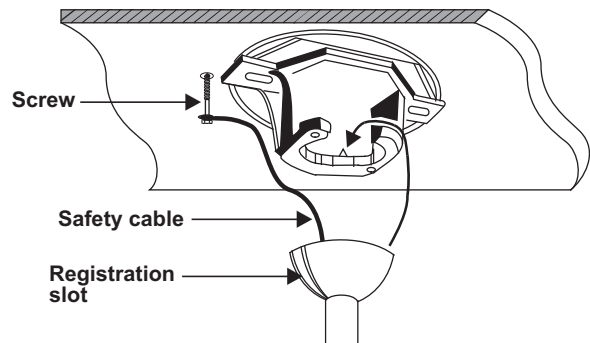

Figure 9
9. Now lift the motor assembly (fan with blades) into position and place the hanger ball into the hanger bracket. Rotate down rod until the "Check Tab" has dropped into the "Registration Slot" and the down rod and ball assembly seat firmly. The down rod and ball assembly should not rotate if this is done correctly. (Fig. 9)
10. An additional safety support is provided to prevent the fan from falling. Secure the safety cable to the ceiling joist with screw and washer. (Fig. 9)